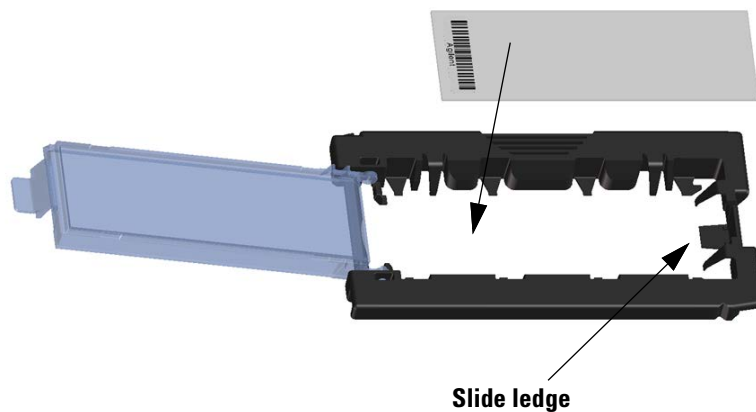

Figure 9 Inserting slide into the slide holder
- c** Carefully place the end of the slide without the barcode label onto the slide ledge. See Figure 9.